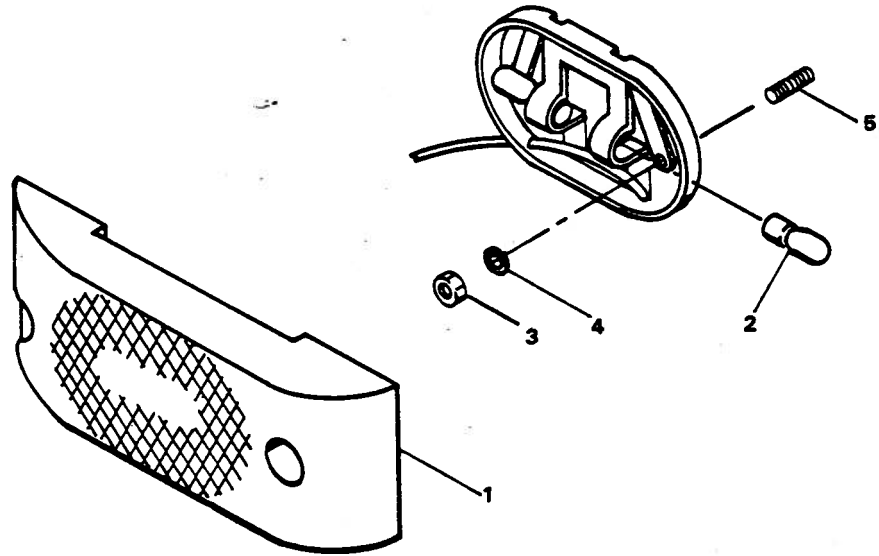

Figure 5-20. Clearance Light Assembly
5-30. DISASSEMBLY. (See figure 5-20.)
- b. Remove lens (1, figure 5-20).
- c. Remove nuts (3) and lockwashers (4).
- d. Remove bulb (2).